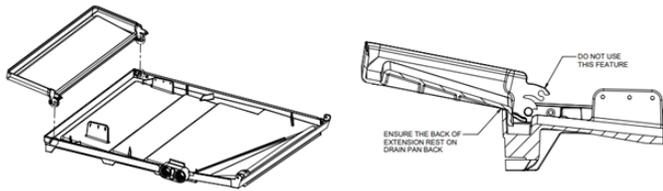

Figure 5A
1. A drain pan extension is shipped with coil in the accessory kit box (Figure 5A). This extension is to be used only for horizontal left application used only for higher than normal humid application. **During horizontal right application, this drain pan extension is not required** (There are accessories recommended for horizontal right application, see page 4). This extension will have to be locked in position for proper application.